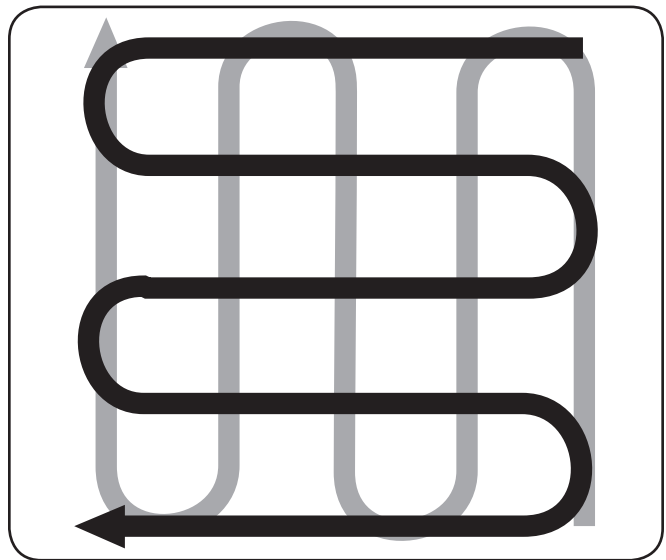

Figure 5-5
- When finished in one direction, make a second pass at a right angle, as shown in Figure 5-5. Overlap each pass for the best results (in very hard ground, it may take three or four passes to thoroughly pulverize the soil.)